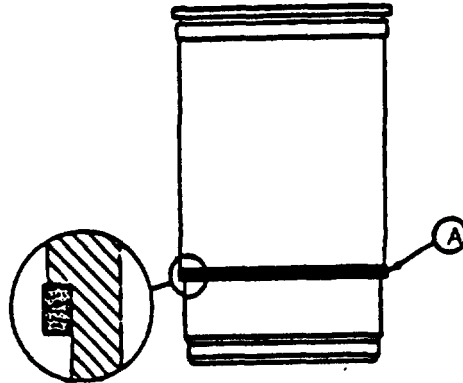

**FIGURE 3-146. Location of Cylinder Liner Packings**
Do not use oil or hand cleaner soap on cylinder liner packings (A, FIGURE 3-146). Petroleum products will cause the red (or white) packing to swell, which may result in packing damage during liner installation.
- a. Pour liner lubricant (AR54749) into a suitable container. Dip packings (A and B, FIGURE 3-146) in lubricant.
- b. Install black packing (A) in lower packing groove in cylinder block.
- f. Coat liner packings (A and B, FIGURE 3-146), sealing area of the cylinder liner and engine block packing (A, FIGURE 3-147) with liner lubricant.